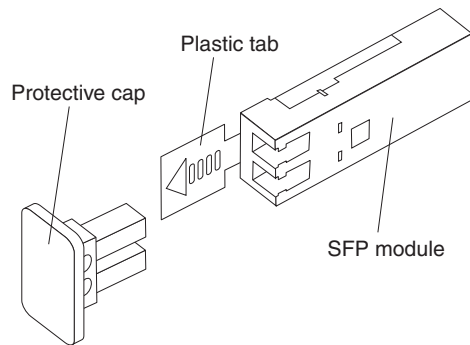

Figure 57. SFP module and protective cap
- b. Remove the protective cap from the SFP module, as shown in Figure 57 on page 79. Save the protective cap for future use.